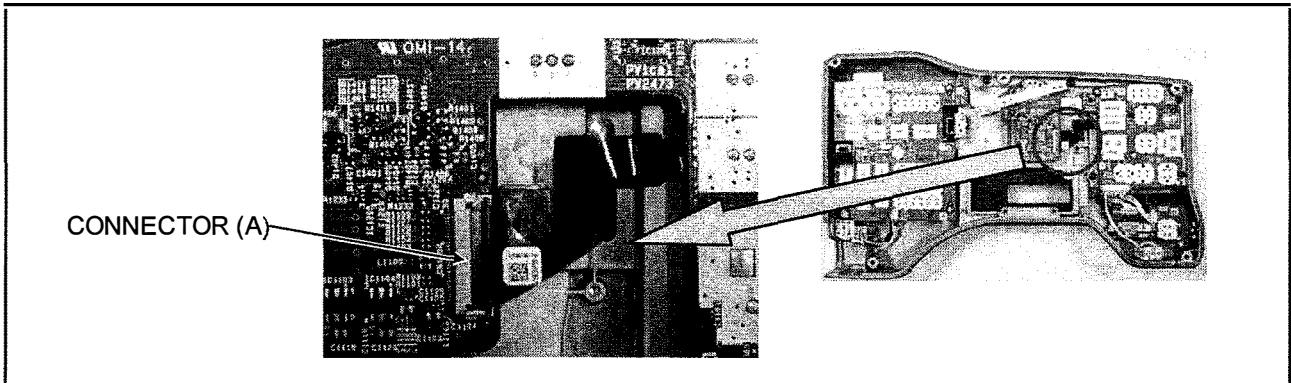

Figure 15-2
3. Disconnect a connector (A) as shown in figure 15-2.